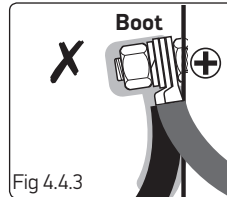

Fig 4.4.3
- ▶ Terminal or motor is damaged. Contact Lewmar Limited (Fig 4.4.3).